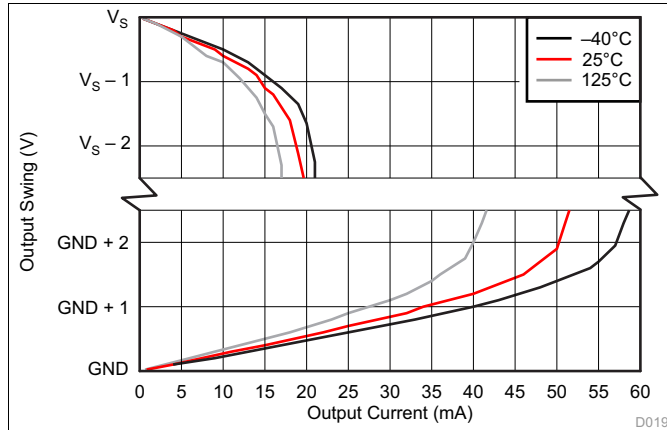

图 19. Output Voltage Swing vs Output Current
(1) RTI = referred-to-input.
(2) See Figure 19.
(3) Swing specifications are tested with an overdriven input condition.